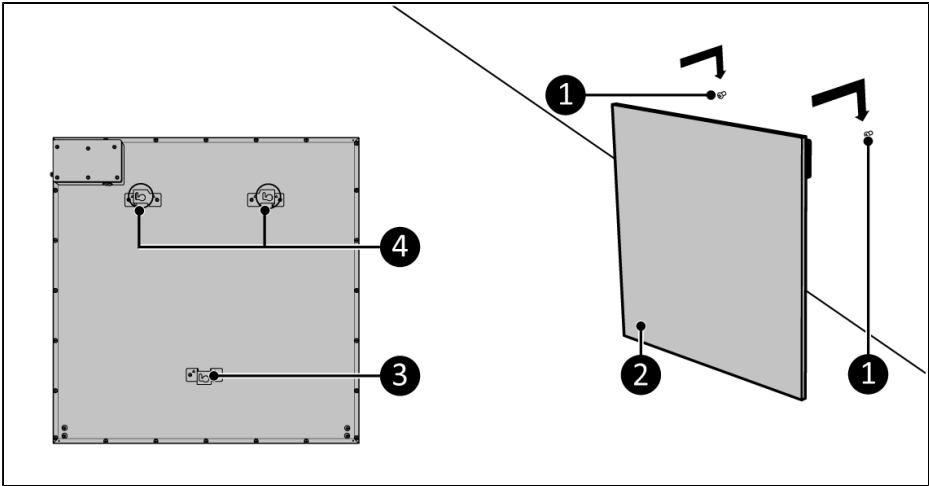

Figure 25.
5. Place the brackets (Figure 25, pos. 4) on the back of the device over the screws in the wall (Figure 25, pos. 1).
7. The spacer bracket (Figure 25, pos. 3) keeps the bottom of the device away from the wall.